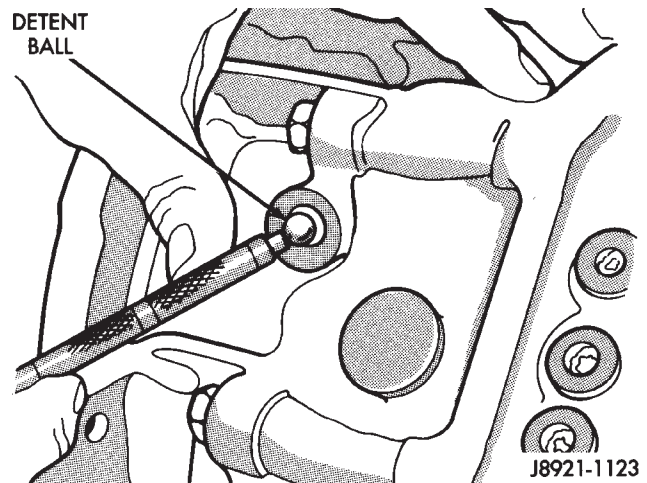

Fig. 120 Installing Detent Ball
(18) Install detent ball (Fig. 120).